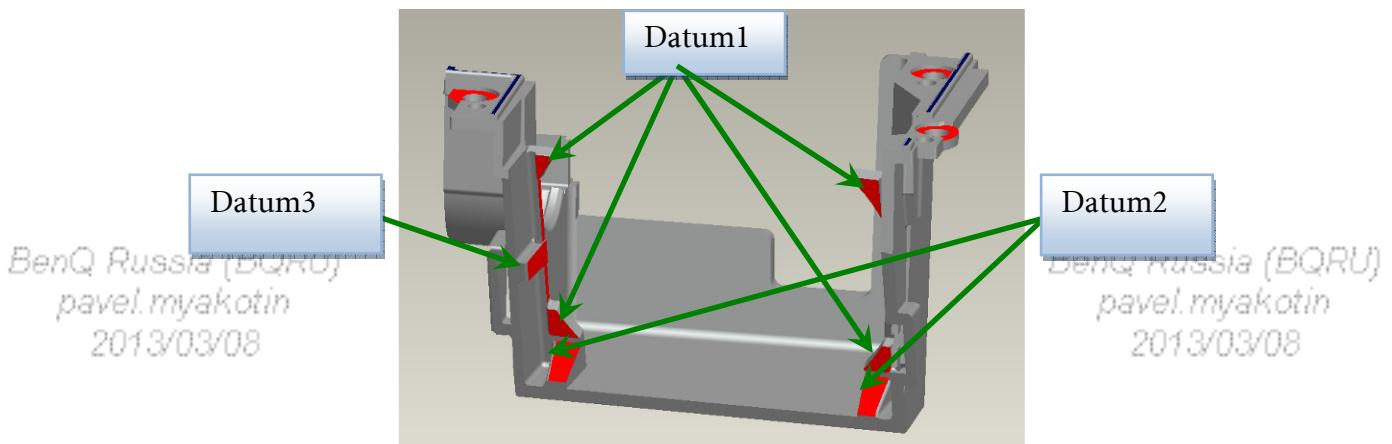

Fig. 2-1
- I. Assemble CM to Sub HSG and to make CM contact Sub HSG datum Well (Fig. 2-1, 2-2).